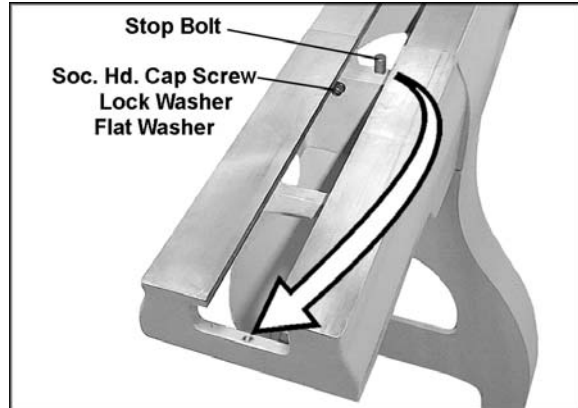

Figure 7
- Have an assistant hold the bed extension flush to the end of the Lathe bed, and insert three 3/8 x 1-3/4 socket head cap screws, three 3/8 lock washers and three 3/8 flat washers, through the holes in the bed extension into the threaded holes on the Lathe. See Figure 7.
- Unscrew the stop bolt from the Lathe bed (Figure 7), and screw it into the hole at the end of the bed extension.